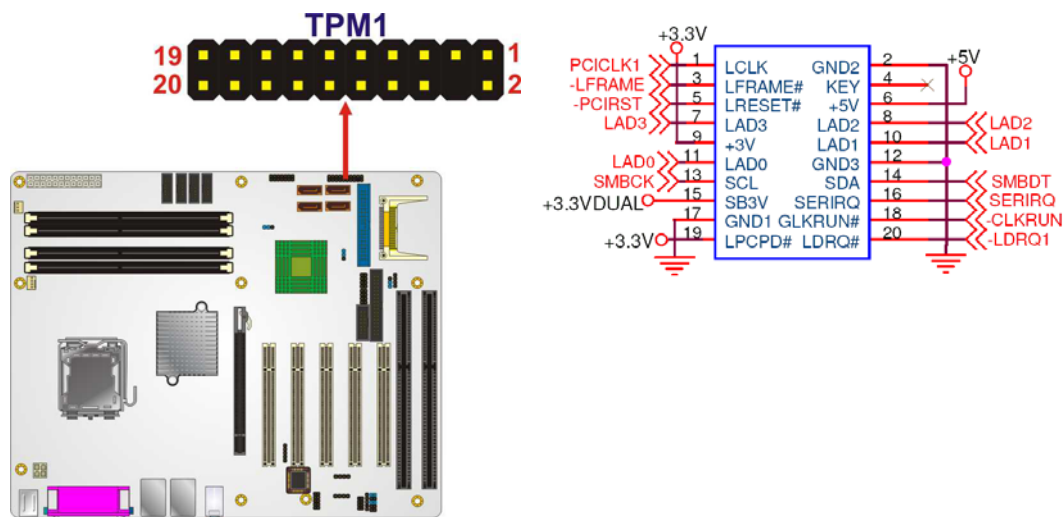

Figure 4-22: TPM Connector Pinout Locations
- CN Location:** See Figure 4-22